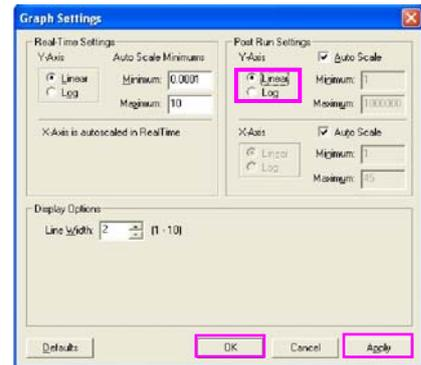

Fig.20
- In **POST RUN SETTINGS** field (Fig.20) :